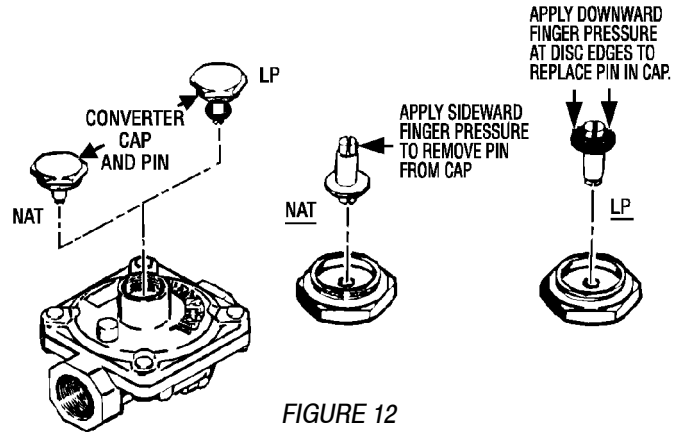

FIGURE 12
**B. INVERT CAP IN APPLIANCE PRESSURE REGULATOR** (See figure 12)
**C. INVERT CAP IN APPLIANCE PRESSURE REGULATOR.** (See figure 12).